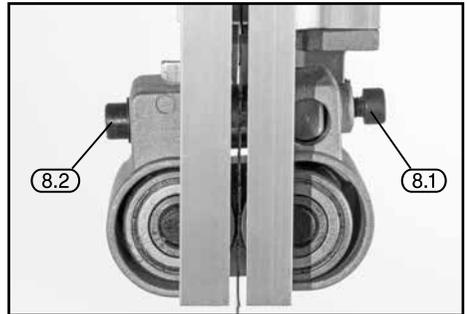

FIG. 19
9.9 ADJUSTING THE UPPER BLADE GUIDE ASSEMBLY – FIGS. 19 – 20